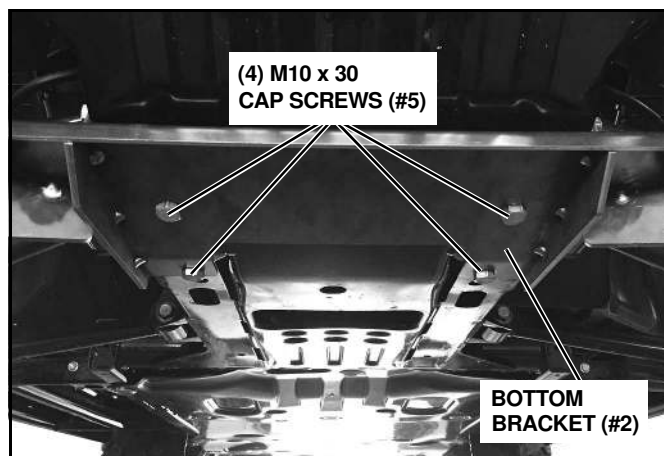

Figure 2
3. Align (4) bottom holes in the Bottom Bracket (#2) with (4) holes in the bottom of the machine. Insert (4) M10-1.25 x 30 Cap Screws (#5), (4) M10 Lock Washers (#6), and (4) M10 Flat Washers (#7) thru the holes in the Bottom Bracket (#2) and into the UTV. (See Figure 2.)